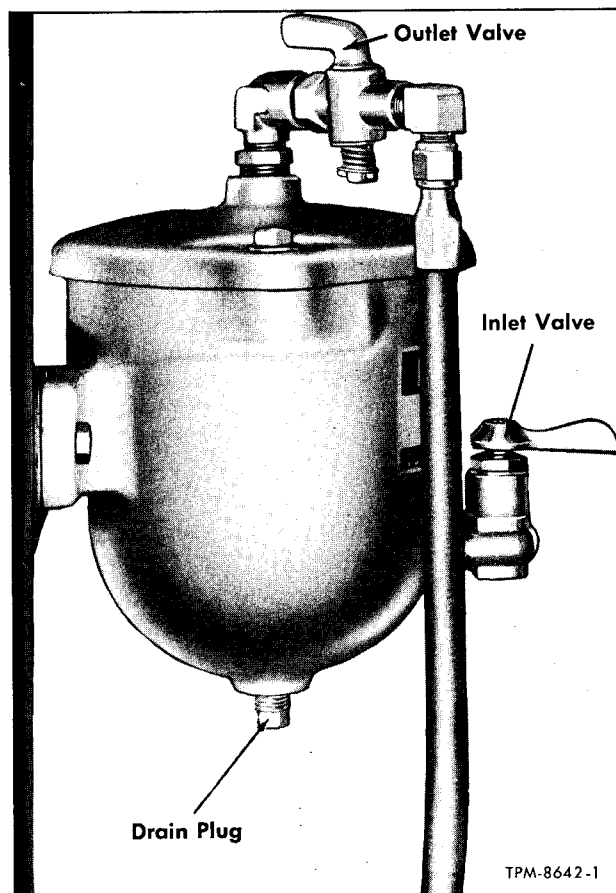

Figure 4—Water Filter Installed
Water filter (fig. 4) as installed on some vehicles is used to filter and condition water in cooling system. On a new engine, the filter element should be initially changed after 2,500 to 3,000 miles. After initial change, the filter should be serviced periodically 7,500 to 10,000 miles or 300 to 500 hours depending upon engine workload, conditions, etc.
1. For convenience in changing element, close off filter supply and return hose by closing the two valves (fig. 4).
2. Remove two bolts (3) which attach cover (1) to filter. Remove cover and cover gasket (2).
3. Remove drain plug (5) from bottom of filter.
4. Remove upper plate (10), element (9), lower plate (8), spring (7), and sump plate (6) from filter body (4). Flush out filter body.
6. Referring to illustration, position sump plate (6), spring (7), lower plate (8), new element (9), and upper plate (10) in filter body (4). Install cover (1) using new gasket (2). Tighten cover attaching bolts evenly and firmly.
7. Open inlet and outlet valves (fig. 4). Start and operate engine until water in cooling system is warm. Check for air lock in filter. If cover of filter becomes warm no air-lock condition exists in system. If cover remains cool, vent system same as for a hot water heater system.